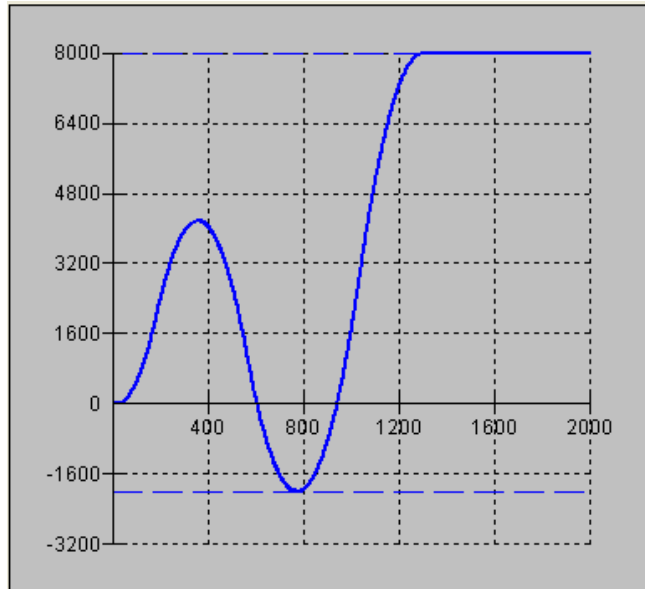
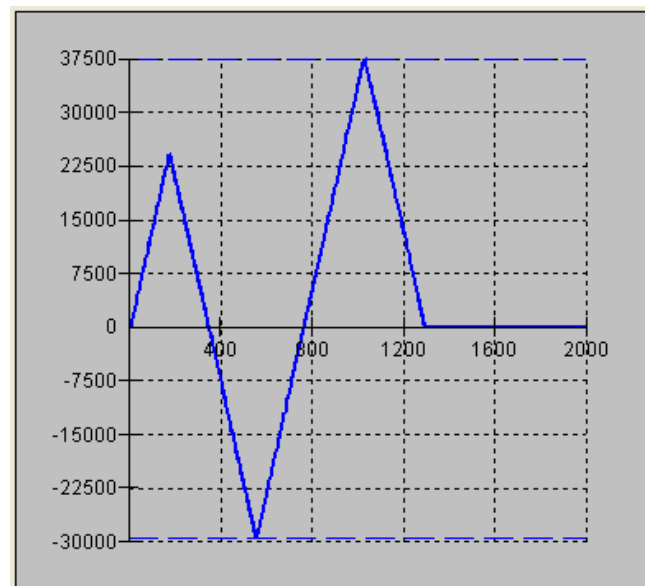
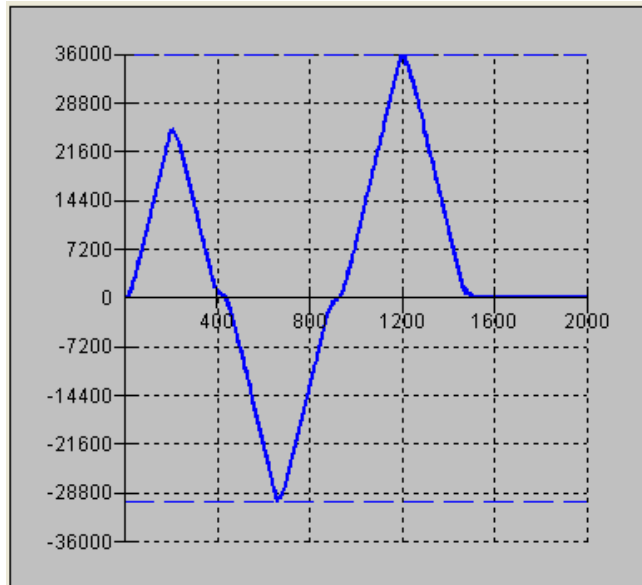

Figure 4 Position vs. Time (msec) Motion 4
Figure 5 Velocity vs. Time Motion 4
Figure 6 Velocity cts/sec vs. Time (msec) with IT
In this motion, the host program commands the controller to begin motion towards position 5000, changes the target to -2000, and then changes it again to 8000. Figure 4 shows the plot of position vs. time, Figure 5 plots velocity vs. time, and Figure 6 demonstrates the use of motion smoothing (IT) on the velocity profile in this mode. The jerk in the system is also affected by the values set for AC and DC.